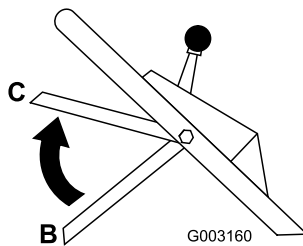

Figure 20
- Bring the blade control bar up into the middle position about 5 inches (12.7 cm) below the handle cross bar (Position C in Figure 20).
- Release the blade control bar (Position B in Figure 20).